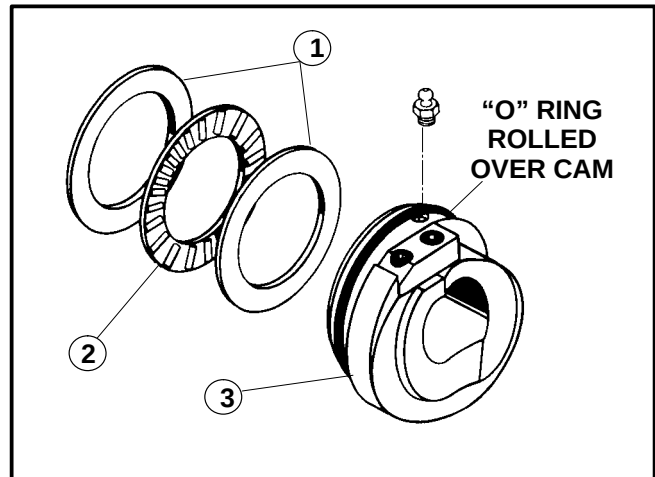

FIGURE 29
4. Before installing the cam, remove the lubrication fitting and stretch "O" ring over cam. The "O" ring will be positioned later. See Figure 29.